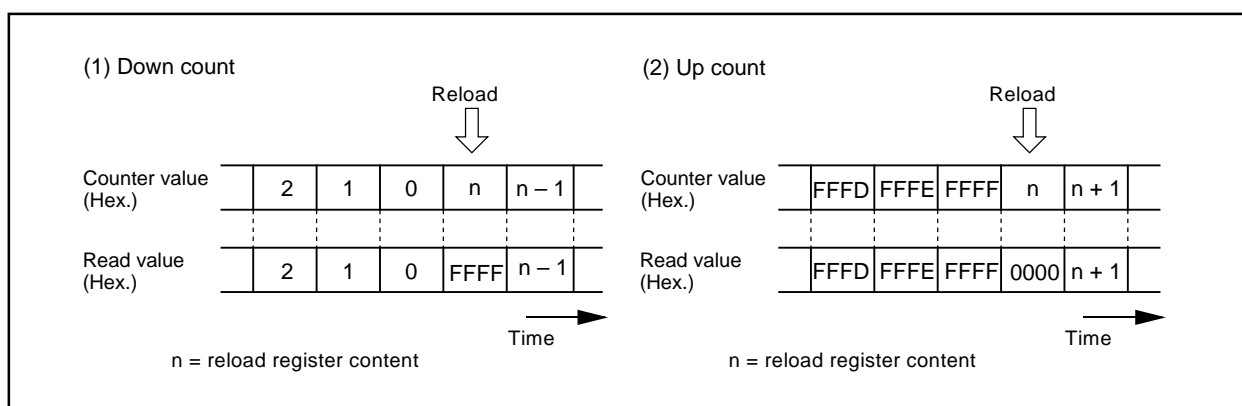

Figure 1.3.2. Reading timer Ai register
2. Reading the timer Ai register while a count is in progress allows reading, with arbitrary timing, the value of the counter. Reading the timer Ai register with the reload timing shown in Figure 1.3.2 gets "FFFF16" by underflow or "000016" by overflow. Reading the timer Ai register after setting a value in the timer Ai register with a count halted but before the counter starts counting gets a proper value.